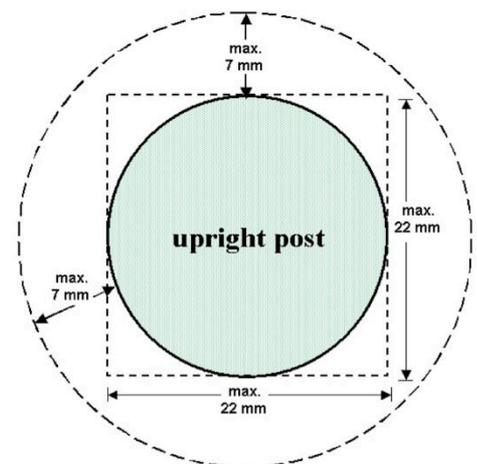

Figure 4: Cut through upright post
6. The upright post shall be of the same height of 152.5 mm with a tolerance of 3mm. The outside limit of the upright post is  $152.5\text{mm} \pm 2\text{mm}$  away from the side of the tabletop (figure 4).